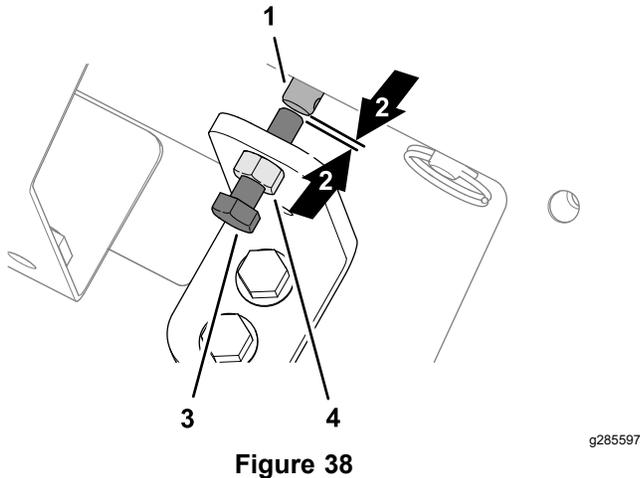

Figure 38
- Loosen the jam nut at the manual-override bracket (Figure 38).
- Rotate the hex-head screw for the valve override counter clockwise until you see a small gap between the end of the screw and the end of the stem of the floor-speed solenoid (Figure 38).
- Tighten the jam nut (Figure 38).